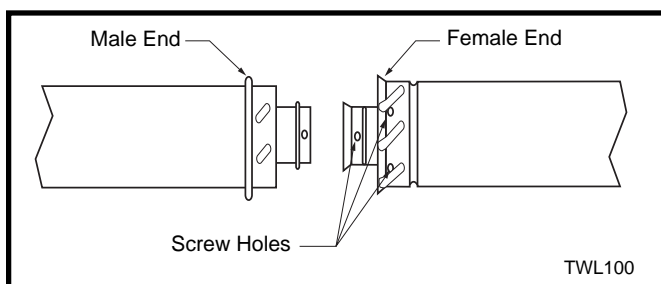

Fig. 17 Twist-lock pipe joints.
To join twist-lock pipes together, simply align the beads of the male end with the grooves of the female end, twisting the pipe until the flange on the female end contacts external flange on the male end. It is recommended that you secure the joints with three (3) sheet metal screws; however, this is not mandatory with twist-lock pipe. (Fig. 17)